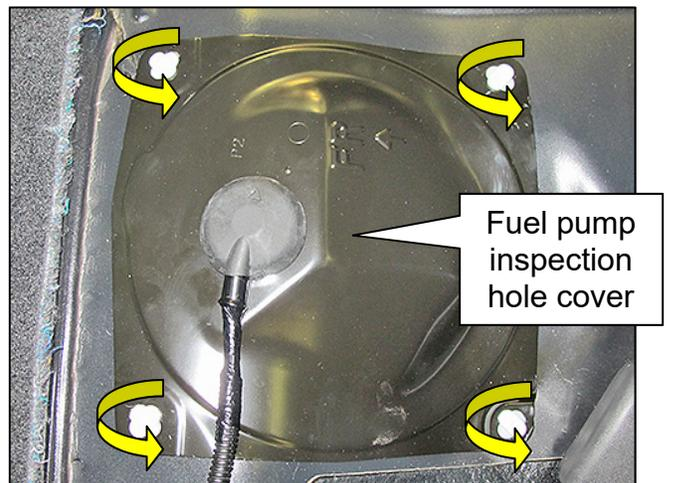

Figure 14
- b. Using a suitable tool, turn each of the four (4) clips 90° counter-clockwise (see Figure 14).